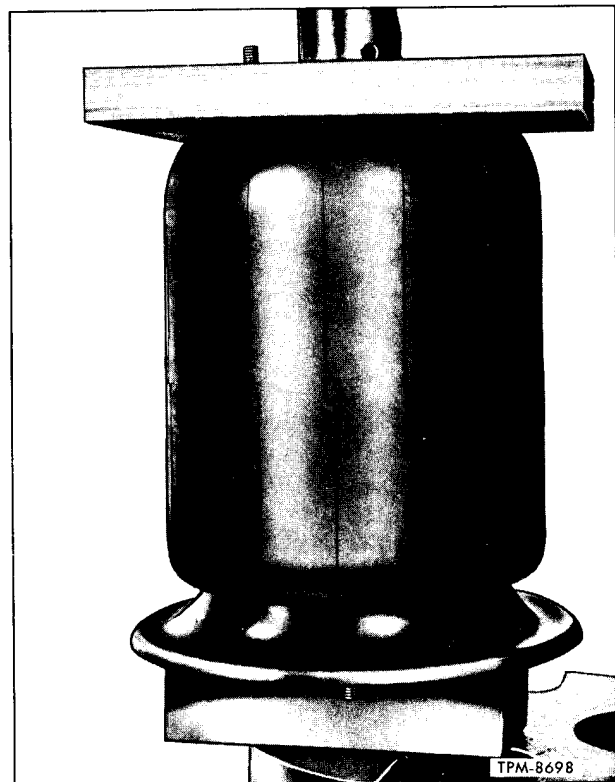

Figure 22—Bellows Loop Rolled Over Piston
9. Operate arbor press so to compress air and cause lower end of bellows to fold over piston. Continue to press until a dimension of approximately 12" overall height is obtained (fig. 22).